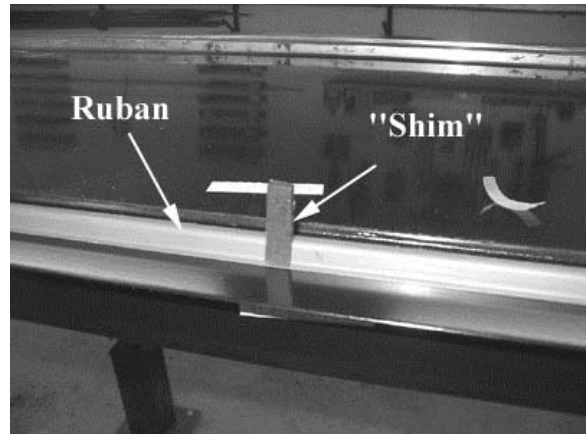

FIGURE 60 : HALF-WINDOW INSTALLATION
7. **HALF-WINDOW ONLY:** place masking tape on awning or sliding window frame to protect it from smudge (see FIGURE 60);
8. **HALF-WINDOW ONLY:** On awning window, place 3 shims #790392 on frame, one at the center and the 2 other at each edge. On sliding window, place 3 shims #790392 on frame, one at the center and the 2 other at each edge in order to have a gap of 10mm between both windows (see FIGURE 60);